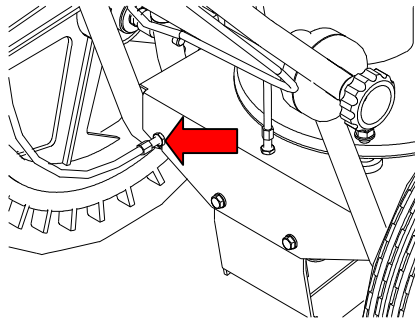
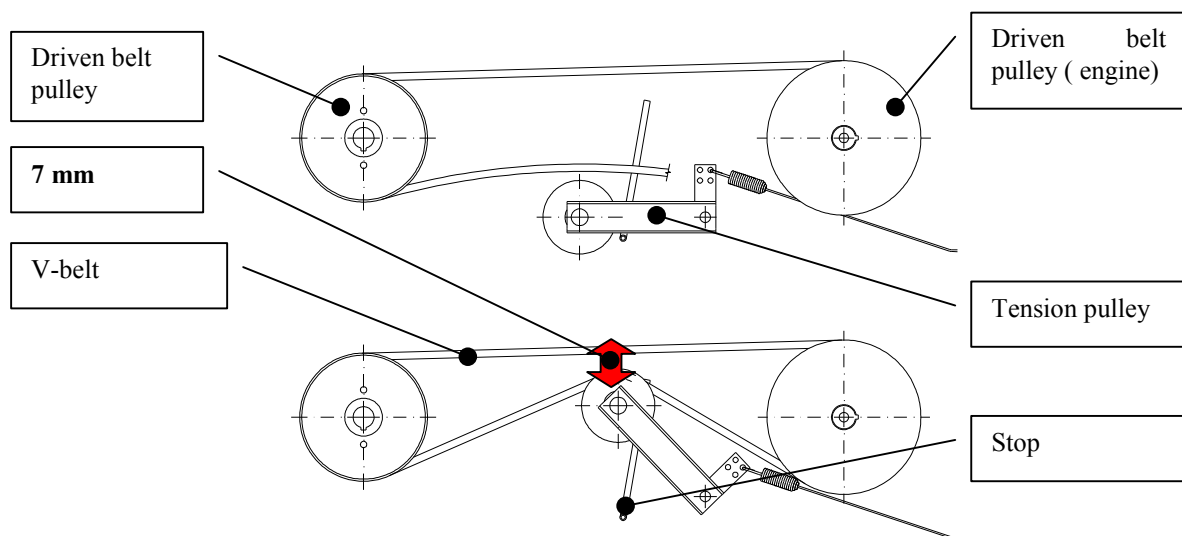

Figure 14
Figure 15
The V-belt should be replaced according to its wear (cracked sides, torn belt, sides worn out down to belt carrier fibres, belt pulled out of shape) or after about 100 hours of operation at the maximum. In this machine, the belt stretched to maximum is considered a belt in which the distance between the internal belt surfaces is lesser than 7 mm (Fig. 15 bottom) with the pressed horizontal bar of string head drive clutch.
- e) Check the operation of the tightening pulley. With the horizontal bar on the handlebars being completely pressed down, the pulley must ensure a sufficient belt tension (spring on the litz wire being extended by about 10 mm as compared with the normal condition). Possible corrections are to be made by means of the adjustment bolt (see Fig.14). Use two spanners No. 10 or No. 9. With the lever switched off, the pulley must be leaning against the stop on the engine plate (Fig. 15 top) and the litz wire in the Bowden of the tension pulley can be slightly slack. In the case that the adjustment bolt is completely unscrewed and it is necessary to
Excessive belt extension (see Fig. 15 bottom)	Replace the belt with a new one